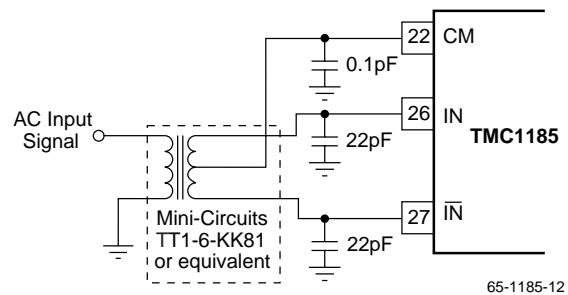

Figure 5. AC-Coupled Single-Ended to Differential Drive Circuit Using a Transformer
The TMC1185 has a differential input with a common-mode of +2.25V. For AC-coupled applications, the simplest way to create this differential input is to drive the primary winding of a transformer with a single-ended input. A differential output is created on the secondary if the center tap is tied to the common-mode voltage (CM) of +2.25V per Figure 5. This transformer-coupled input arrangement provides good high frequency AC performance. It is important to select a transformer that gives low distortion and does not exhibit core saturation at full scale voltage levels. Since the transformer does not appreciably load the ladder, there is no need to buffer the common-mode (CM) output in this instance. In general, it is advisable to keep the current draw from the CM output pin below 0.5 μ A to avoid nonlinearity in the internal reference ladder. A FET input operational amplifier such as the OPA130 can provide a buffered reference for driving external circuitry. The analog IN and \overline{IN} inputs should be bypassed with 22pF capacitors to minimize track/hold glitches and to improve high input frequency performance.